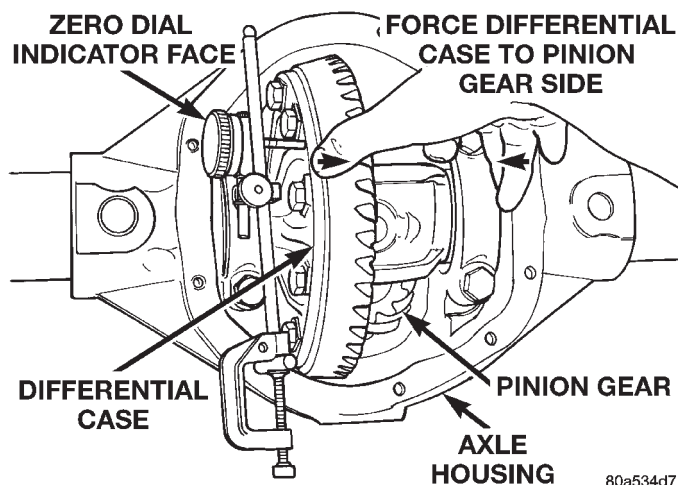

Fig. 50 Hold Differential Case and Zero Dial Indicator—Typical
(8) Thread Guide Stud L-4438 into rear cover bolt hole below ring gear.
(9) Attach a dial indicator C-3339 to guide stud. Position the dial indicator plunger on a flat surface between the ring gear bolt heads.
(10) Firmly push and hold differential case to pinion gear side of axle housing (Fig. 50).
(11) Zero dial indicator face to pointer.